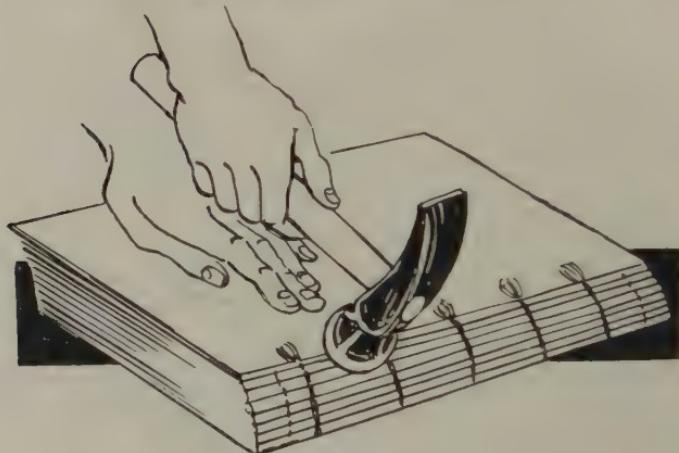

FIG. 201—SHAPING BOOK OR ROUNDING
5. When glue has "set" but not *dried* thoroughly, remove from clamp or backer, take off boards, lay book on iron slab on table, *front edge* of book *toward you*, and with your light backing hammer gently shape the book "into round." (Fig. 201.)